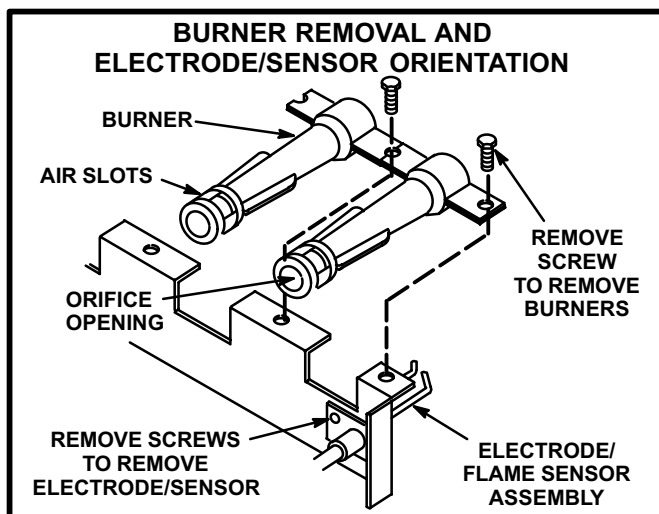

FIGURE 23
Figure 23 shows how to remove burner assembly.
- 2- Remove screws as shown in figure 23.